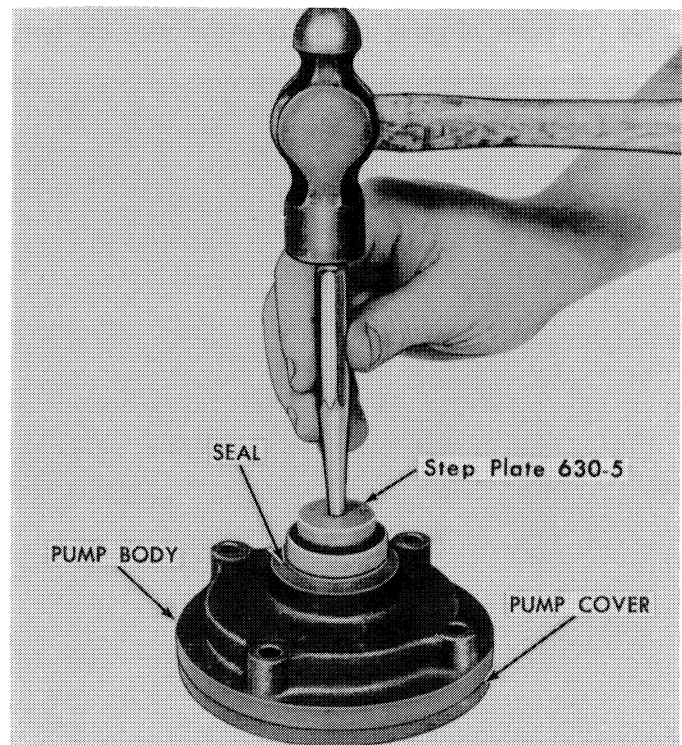

Figure 76
3. Replace the seal in the pump with Step Plate 630-5, as shown in Figure 76.